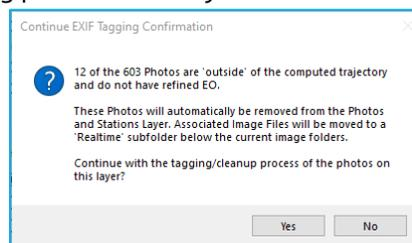

Figure 97 - EXIF Tagging Confirmation
5. A confirmation dialog (Figure 97) will appear showing the number of images that will be removed. This is a result of those images being outside of the corrected trajectory time frame and normal for the tagging process. Select yes to continue.